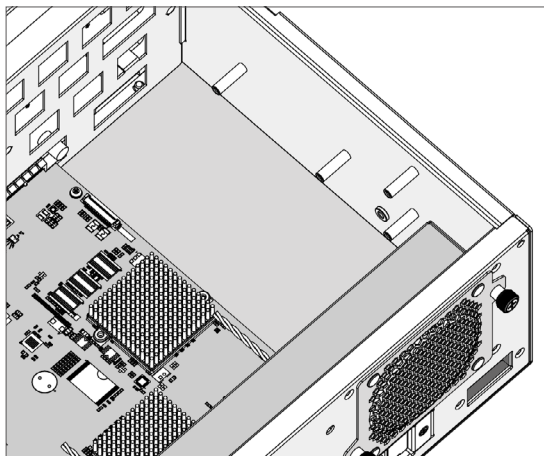

Figure B-9, Removing the Cover
1. Loosen the screws and remove the cover from the ARC-8050T3-16R/24R enclosure, as shown in Figure B-9.